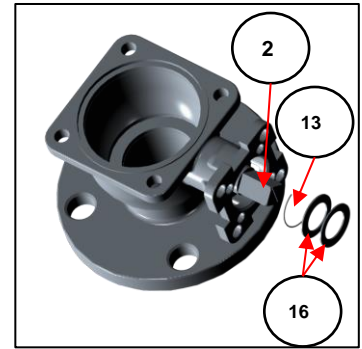

Figure 4-7
4.1.9 Remove the disc springs (item 16) and spring (item 13). (Figure 4-7)